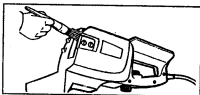

Figure 30
4. Remove all sawdust and oil from the drive sprocket and bar-mounting pad area of the saw. Figure 30.